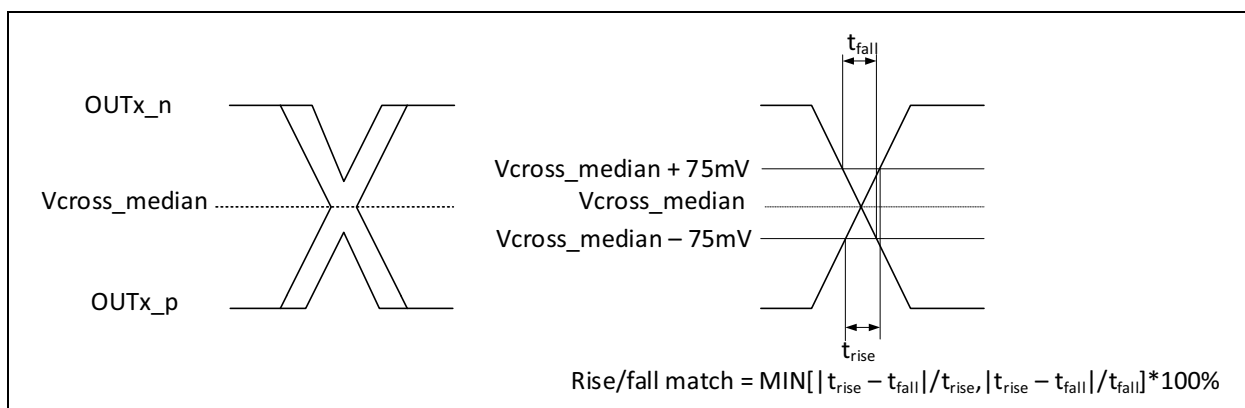

FIGURE 4-3: Single-Ended Measurement Points for Rise and Fall Time Matching.
- 11:** Matching applies to rising edge rate for CKx and falling edge rate for CK#x. It is measured using a ± 75 mV window centered on the median cross point where CKx rising meets CK#x falling. The median cross point is used to calculate the voltage thresholds the oscilloscope is to use for the edge rate calculations. The Rise Edge Rate of CKx should be compared to the Fall Edge Rate of CK#x the maximum allowed difference should not exceed 20% of the slowest edge rate. See Figure 4-3.